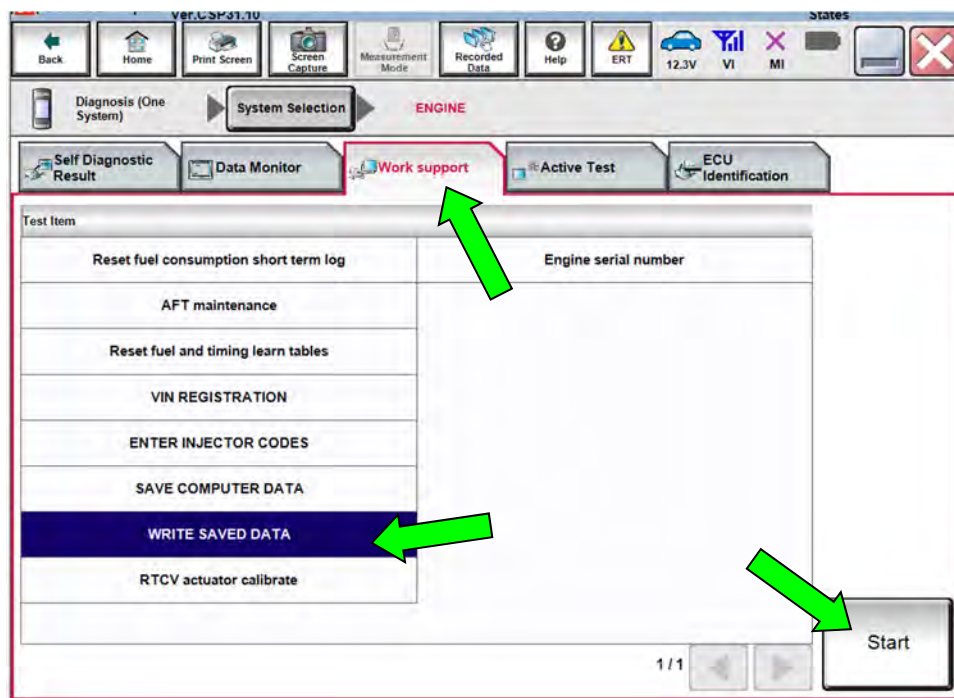

Figure 8
18. Navigate C-III plus to Engine > Work Support (see Figure 8).